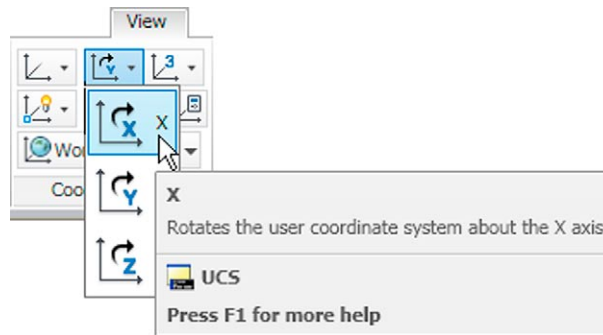

Fig. 17.16 The UCS X tool in the **View/Coordinates** panel
3. Click the **X** tool icon in the **View/Coordinates** panel (Fig. 17.16):